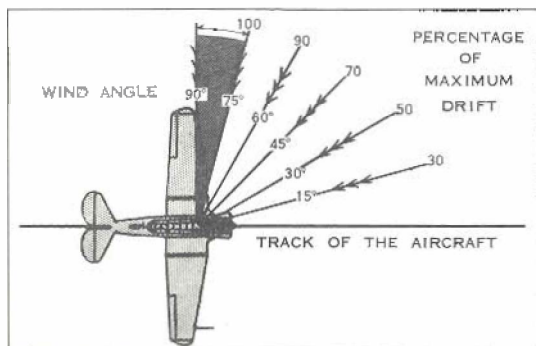
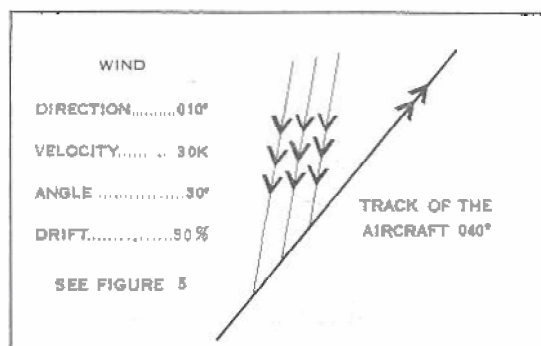

Figure 5: The Drift Table
Figure 6: Wind Angle
(4) **MAXIMUM DRIFT** - One of the greatest problems in Mental DR is solving the wind triangle in order to apply the correct amount of drift to fly along a certain track. Maximum drift is experienced when the wind is at 90 degrees to track, while no drift is experienced when the wind is ahead of, or immediately behind, the aircraft. In between these two extremes, a percentage of maximum drift can be found by dividing up the intervening space into segments of 15°, and allotting a percentage value to each segment. (See Figure 5.) For example:
The wind direction is 010° which, when subtracted from a heading of 040° , gives a wind angle of 30° , as shown in Figure 6 or 50% according to the table in Figure 5.